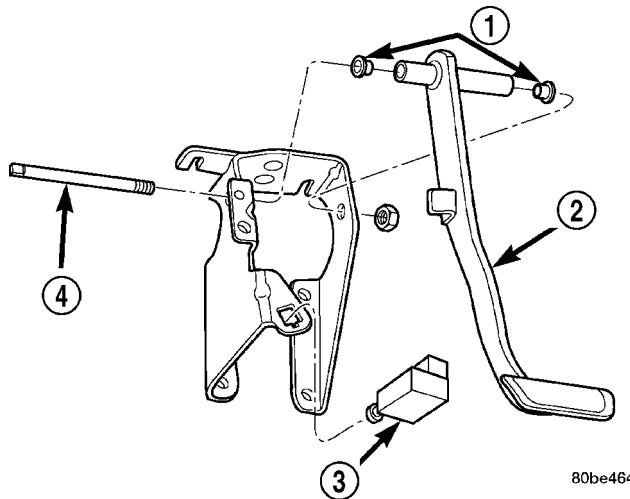
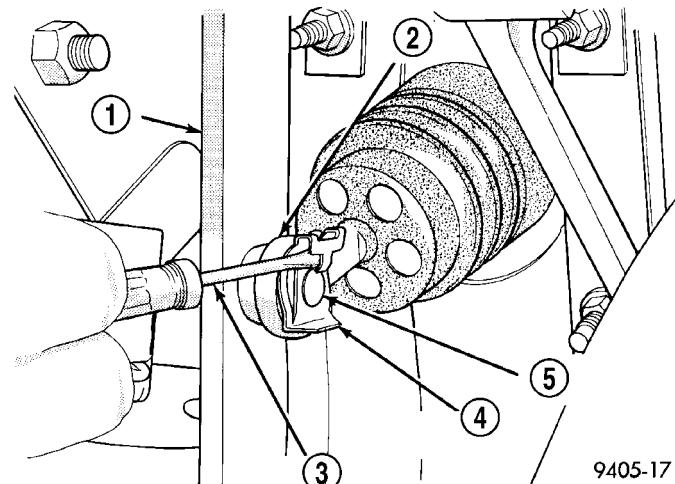

Fig. 70 Brake Pedal
Fig. 71 Brake Pedal Retaining Clip
A suspended type brake pedal is used on this vehicle (Fig. 70). The pedal pivots on a shaft mounted in the pedal support bracket under the instrument panel. The pedal also connects to the power brake booster input rod. The pedal ratio is 3.44:1.
(1) Disconnect and isolate the remote ground battery cable from the ground stud on the right strut tower.
(2) Remove the brake lamp switch from its bracket (Fig. 70). The brake lamp switch is removed by depressing and holding the brake pedal while rotating brake lamp switch in a counterclockwise direction approximately 30 degrees. Pull the switch rearward and remove it from its mounting bracket.
(3) Remove the retaining clip from the brake pedal pin securing the power brake booster to the pedal using following procedure (Fig. 71). Position a small screwdriver between the center tang on the retaining clip and the brake pedal pin. Rotate blade of screwdriver enough so center tang on retaining clip can pass over end of brake pedal pin, then pull retaining clip off brake pedal pin.
(4) Remove the booster input rod from the brake pedal pin.
(5) Remove the nut from the brake pedal pivot shaft (Fig. 70). The pivot shaft has a flat on it to hold while the nut is removed.
(6) Remove the brake pedal pivot shaft from the brake pedal and pedal mounting bracket.
(7) Remove the brake pedal with bushings from mounting bracket (Fig. 70).
(1) Make sure the pedal has a properly installed bushing on each side of the pedal (Fig. 70).
(2) Lubricate the brake pedal pivot shaft and brake pedal bushings using Mopar Lubriplate or an equivalent.
(3) Install the brake pedal in the pedal bracket (Fig. 70). Align the hole in brake pedal with the pivot shaft holes in the pedal bracket.
(4) Install the brake pedal shaft (Fig. 70).
(7) Install a new retaining clip (Fig. 71) on the brake pedal pin.
(8) Using Mopar Lubriplate or an equivalent, lightly lubricate the surface of the brake pedal striker where the plunger of the brake lamp switch contacts it.
(9) Hold brake lamp switch firmly in one hand. Using other hand, pull outward on the plunger of the brake lamp switch until it has ratcheted out to its fully extended position.
(10) Install the brake lamp switch in the brake pedal bracket (Fig. 70). Install it using the following procedure. Depress the brake pedal as far down as possible. Then while holding brake pedal down, align the index key on switch with notch in square hole of mounting bracket. When the switch is fully installed into the bracket, rotate the switch in a clockwise direction approximately 30 degrees until it locks into place.